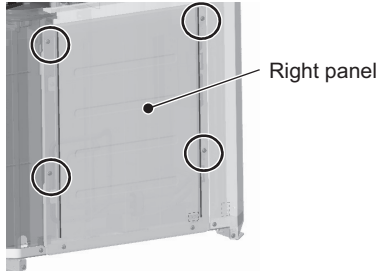

Figure 1
- (1) Remove the front heat exchanger. Refer to 8-13-8 Maintenance Procedures for the Heat Exchanger for details.
- (2) Remove the top, front, and right compressor covers. Refer to 8-13-5 Compressor Replacement Procedure for details.
- (3) Remove the duct from the control box. Refer to the control box replacement procedure for details.
- (4) Remove the right and inside (right) compressor panels by unscrewing the four screws. (Applicable only to the S-module. See Figures 1 and 2.)